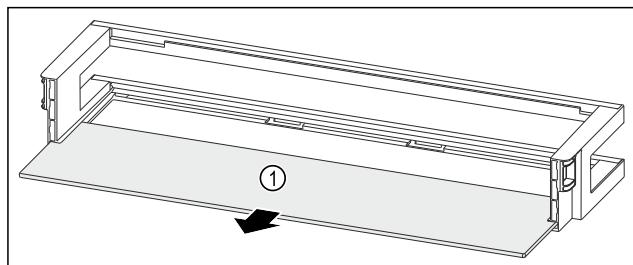

Fig. 116 Door rack with shelf
- ▶ Remove the shelf Fig. 116 (1).